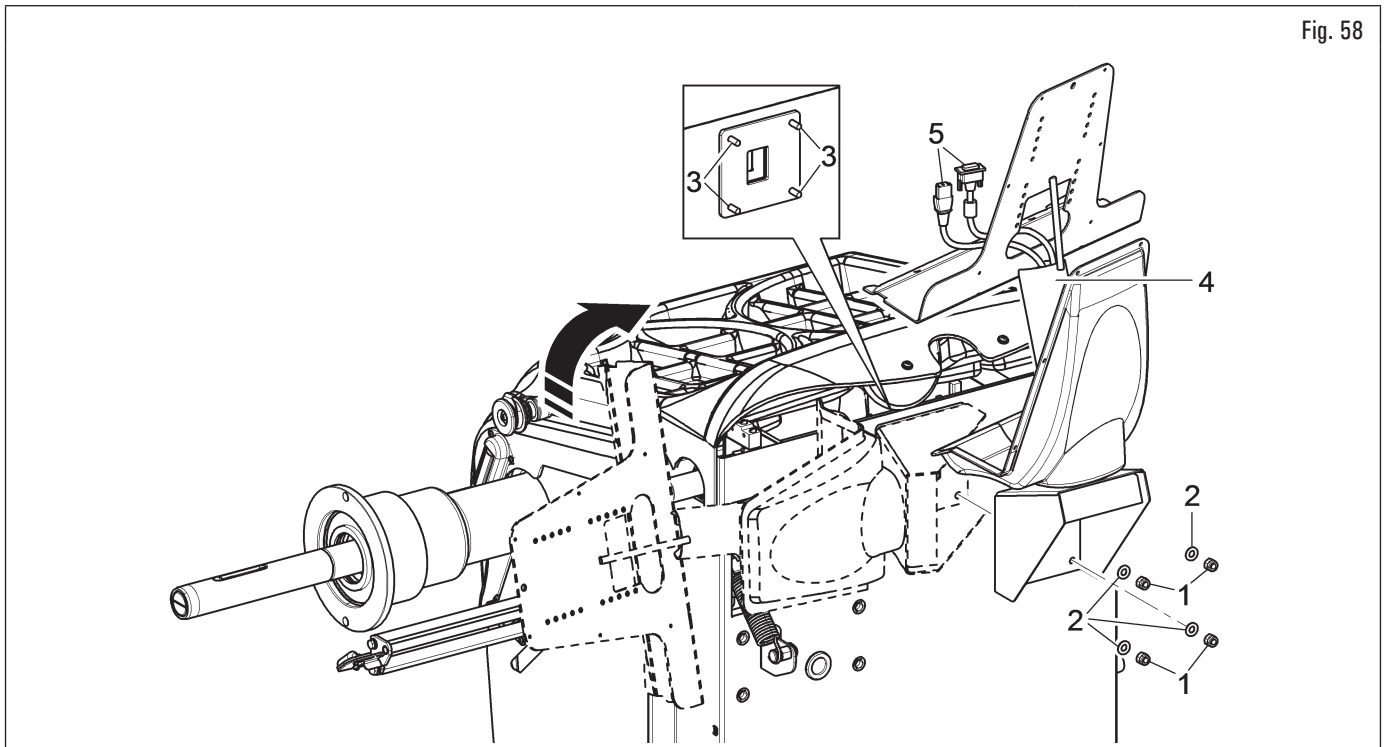

Fig. 58
1. Remove bolts (Fig. 58 ref. 1) and the nuts (Fig. 58 ref. 2) from the bolts (Fig. 58 ref. 3). Mount the support (Fig. 58 ref. 4) rotated 90°. Then screw the previously removed nuts and washers again;
During this operation pay particular attention to the power supply cables/signal of the monitor (Fig. 58 ref. 5) in order not to damage them.